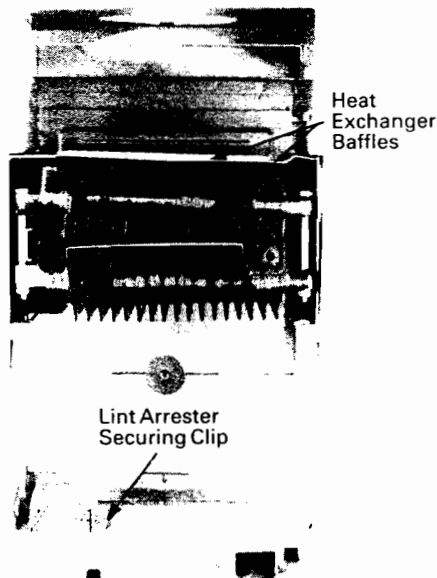
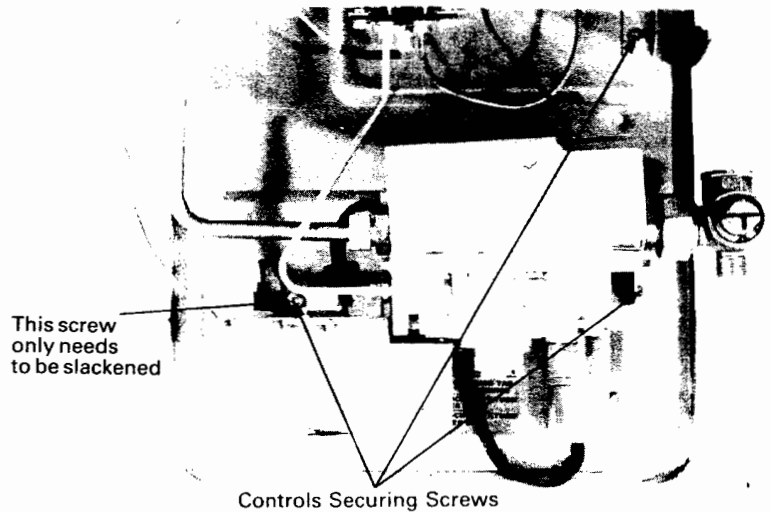

Fig. 17. Combustion Chamber
Fig. 16. Securing Screws
8. Remove the burner and controls complete. (three screws) (Fig. 16) and remove the clip securing the lint arrester to the base of the appliance (Fig. 17).
9. Slide out the heat exchanger baffles (Fig. 17).
- 1in diameter x 2 1/2in long bristle brush.Brush out the bottom of the combustion box and then replace the insulation panels and the heat exchanger baffles. (Fig. 17).